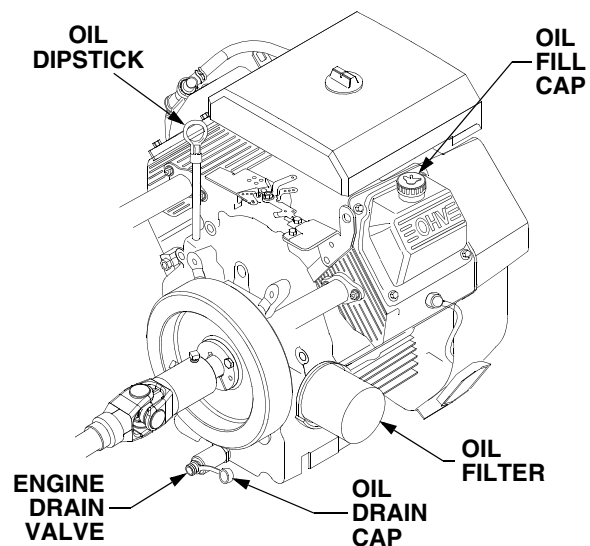

Figure 47
- Remove the dipstick and oil fill cap from the engine. Refer to Figure 47.
- Locate the engine drain valve on the rear of the engine (See Figure 47). Place a suitable container below the open end of the drain valve to collect the old oil.
- Pull the oil drain cap off the end of engine drain valve. To prevent loss of the cap, do not remove the cap's retaining ring from the drain valve. See Figure 47.
- Remove the filter by turning it counterclockwise using an automotive type filter wrench to loosen. See Figure 47.
- Push the drain valve fully inward until you are able to turn the valve clockwise to lock in the closed position. Refer to Figure 47.